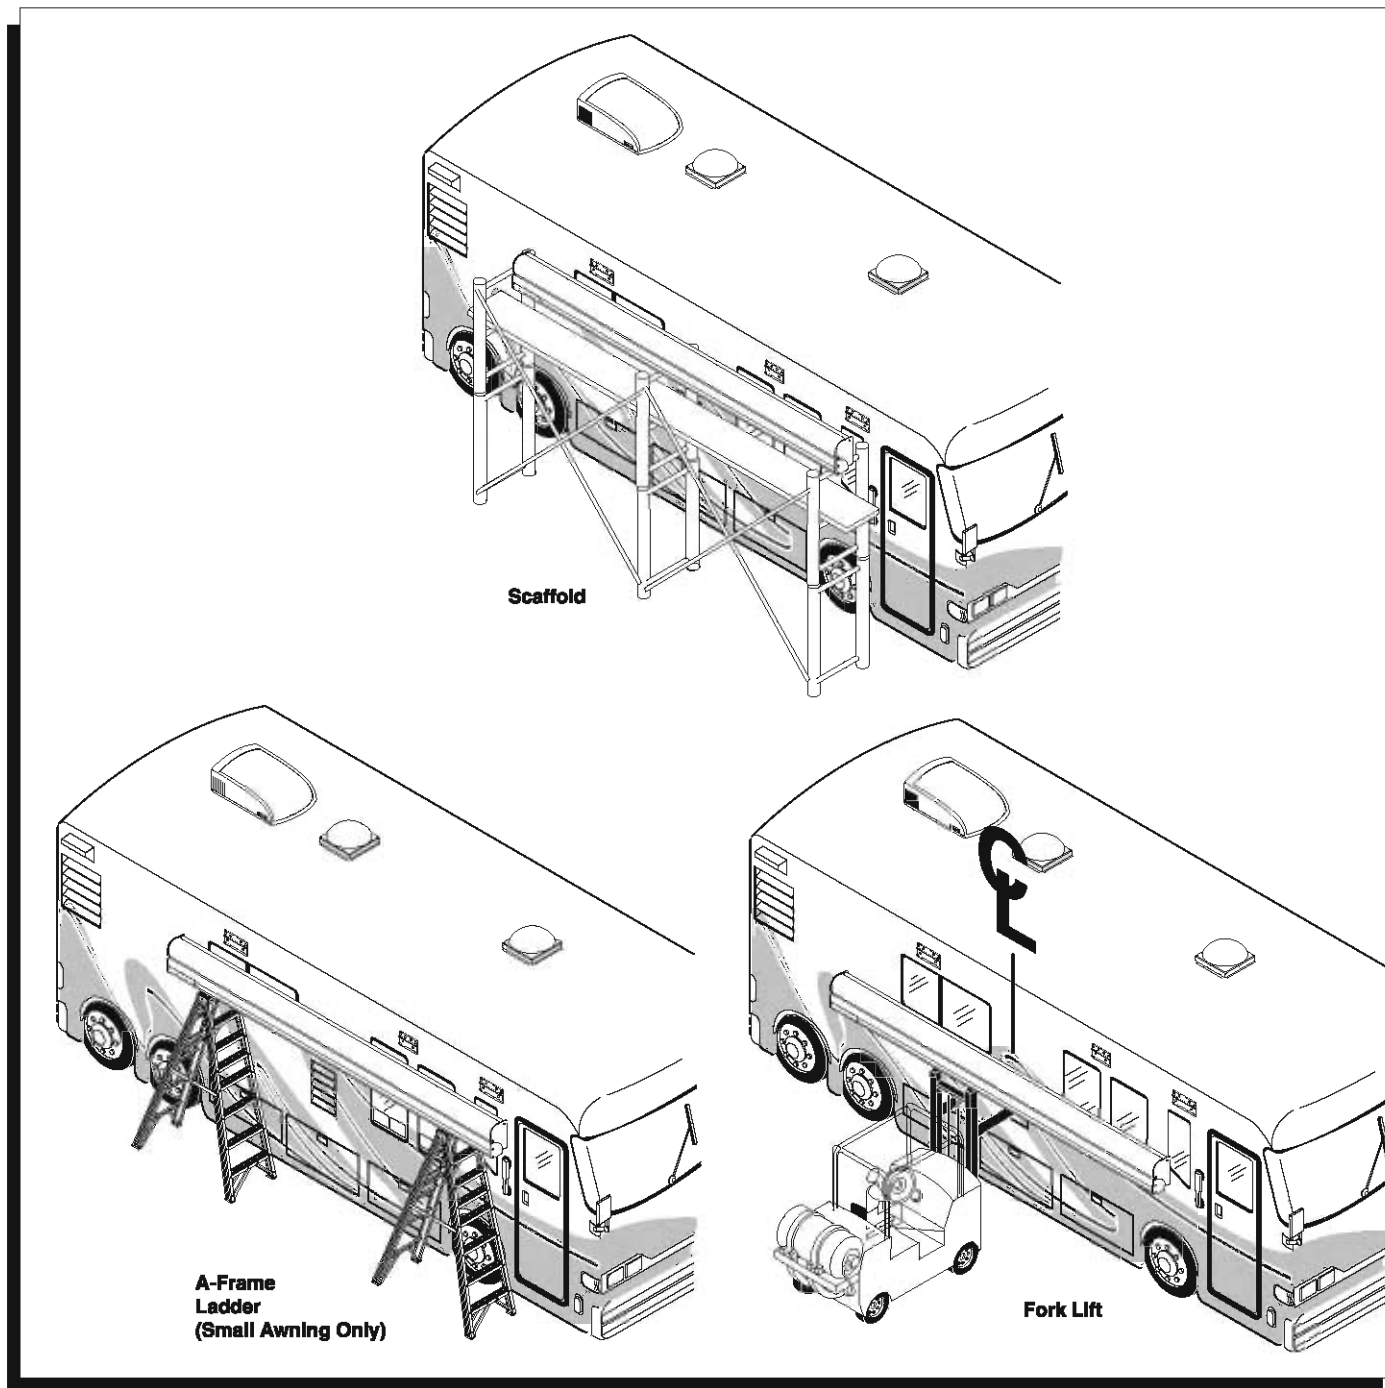

FIGURE 24
- a. While ladders are generally sufficient, you may use a scaffold or a forklift to raise awning into position (Fig. 24).
- b. If using forklift, lift from center line of awning ("CL" on Fig. 24) to maintain product balance while elevating.